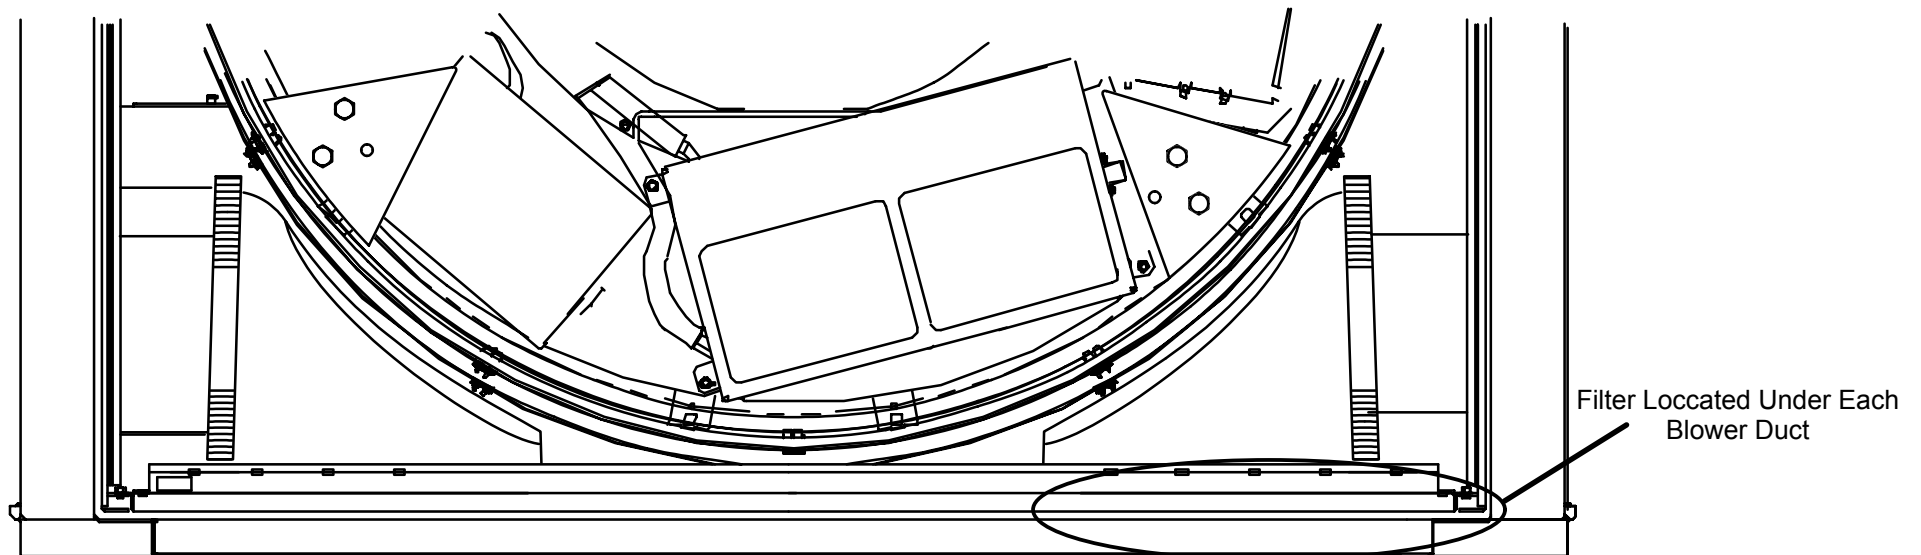

FIGURE 293 Gantry Air Filter Location
3. Remove the Air Filters by sliding them out. See Figure 293.